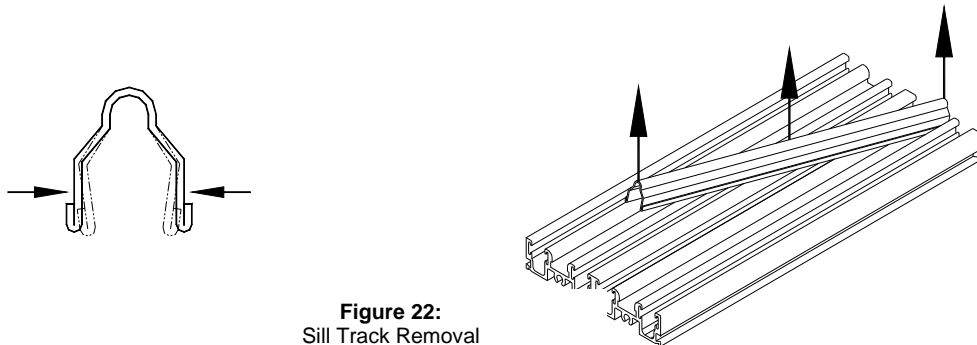

Figure 22:
1. Using a pair of pliers, slightly squeeze the track together at one end and pull up (Figure 22).